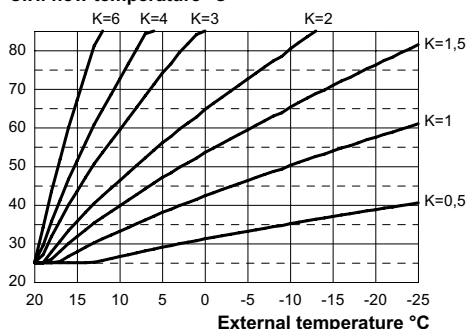

Fig. 8.6
If the boiler is **EQUIPED** with the remote control (optional) refer to Fig. 8.6. In this case K setting must be done from the remote control.
The K coefficients is a parameter that increases or reduces the boiler flow temperature when the outside temperature changes. When installing the external probe it is necessary to set this parameter based on the efficiency of the heating system in order to optimise the flow temperature (Fig. 8.6).
E.g. In order to have a flow temperature at the heating system of 60°C with an external temperature of -5°C, set a K at 1.5 (sectioned line in Fig. 8.6).
- Using keys 17 or 18 it is possible to change the value of parameter 15 from a minimum of **01** to a maximum of **60** based on the selected bend of the K coefficient in Fig. 8.6 (the value read on the display corresponds to K coefficients decimal values).